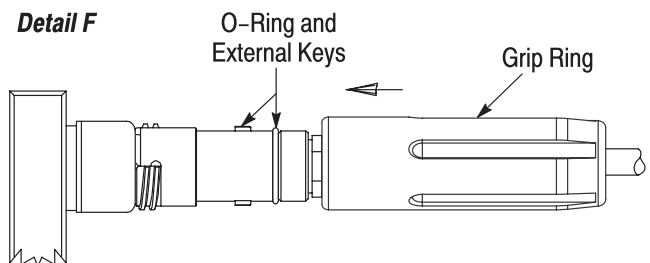

Figure 14
12. Apply 2 to 3 drops of the threadlocker to the threads at the front of the collet sleeve. See Figure 14, Detail A.
13. Slide the collet sleeve over the crimp sleeve and into the housing. Thread the collet sleeve onto the housing, BEING VERY CAREFUL NOT to pinch the back end of the collet sleeve which would cause the cable to twist. See Figure 14, Detail B.
14. Secure the bench-mount assembly fixture to a stable work surface. Fit the end of the housing onto the captive housing of the bench-mount assembly fixture. See Figure 14, Detail C.
16. Using an applicator swab, apply a *thin film* of the grease to the housing O-ring, threads of the collet sleeve, and the ramp of the collet sleeve. Refer to Figure 14, Detail D.
17. Slide the collet nut onto the collet sleeve. See Figure 14, Detail E. Using the 15-mm U-wrench, tighten the collet nut to a torque between 3.6 and 4 N-m.
18. Apply several drops of the threadlocker to the threads of the housing. See Figure 14, Detail E.
19. Slide the grip ring over the housing, twisting the grip ring  $\pm 90^\circ$  so that it slides over the O-ring and the external keys of the housing. See Figure 14, Detail F. Thread, then hand-tighten the grip ring onto the bench-mount assembly fixture.